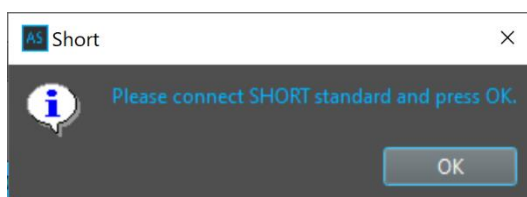

Figure 11-63: Short calibration - OK
12. In the OSL Calibration tabbed page, click Start Short Calibration. In the Short calibration dialog, click OK as shown in Figure 11-63. Wait for the calibration to finish.